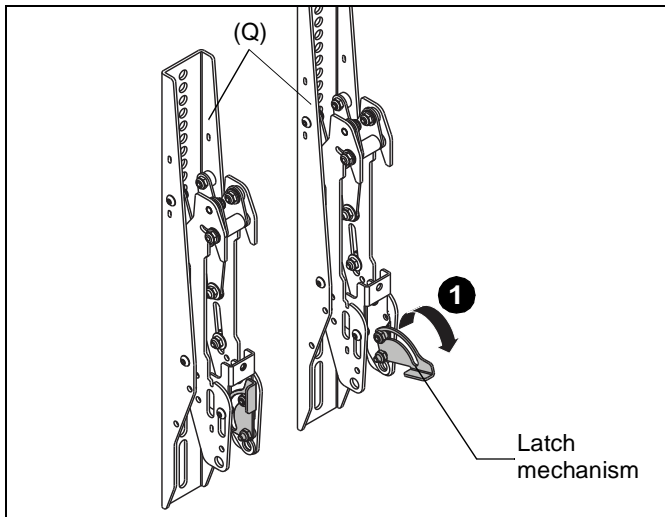

Figure 6
1. Lower the latch mechanism on each interface bracket (Q). (See Figure 6)